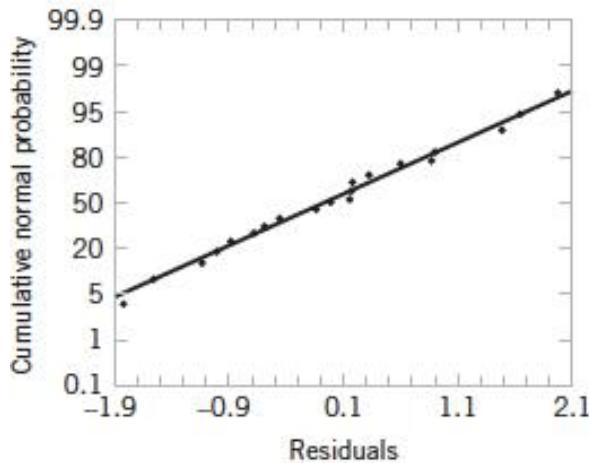

FIGURE 11.10
- A normal probability plot of the residuals is shown in Fig. 11.10. Since the residuals fall approximately along a straight line in the figure, we conclude that there is no severe departure from normality.